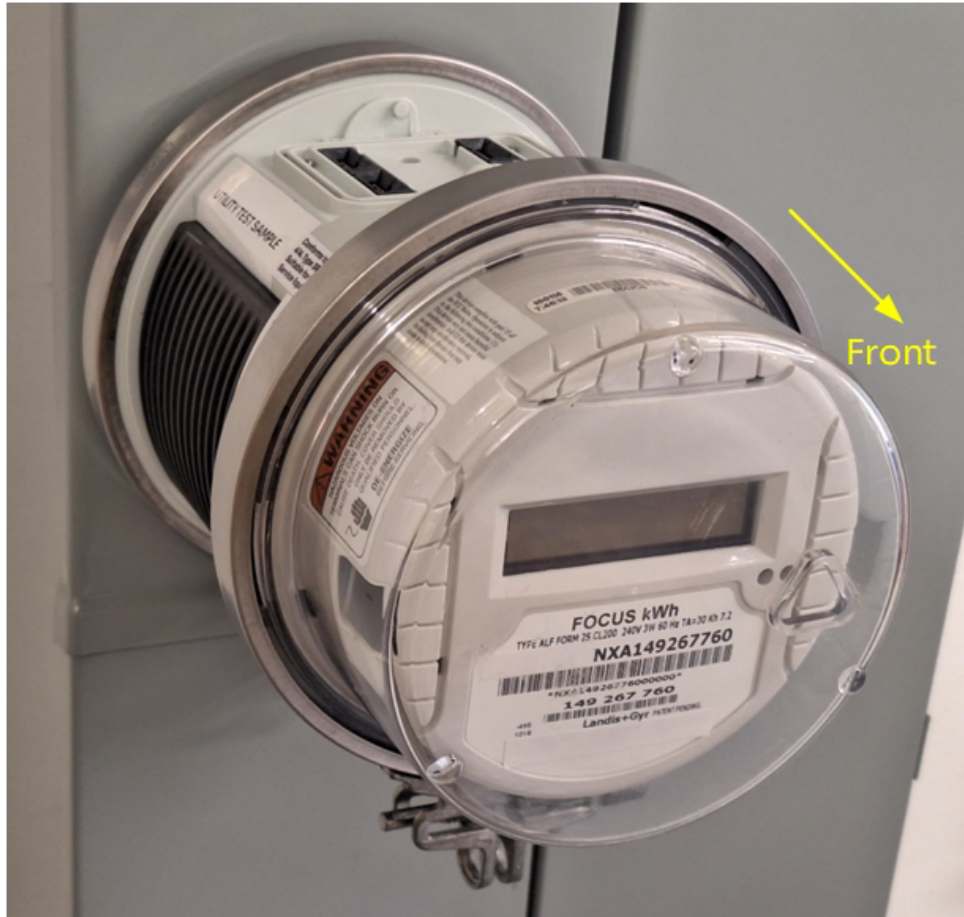

Figure 23. MSA Base with Utility Meter Installed.
19. Install a lock ring to secure the utility meter to the MSA Base with the thicker/wider flange facing the meter socket. If the ring says “Front” on it, install it with the arrow facing away from the meter socket. See Figure 23.